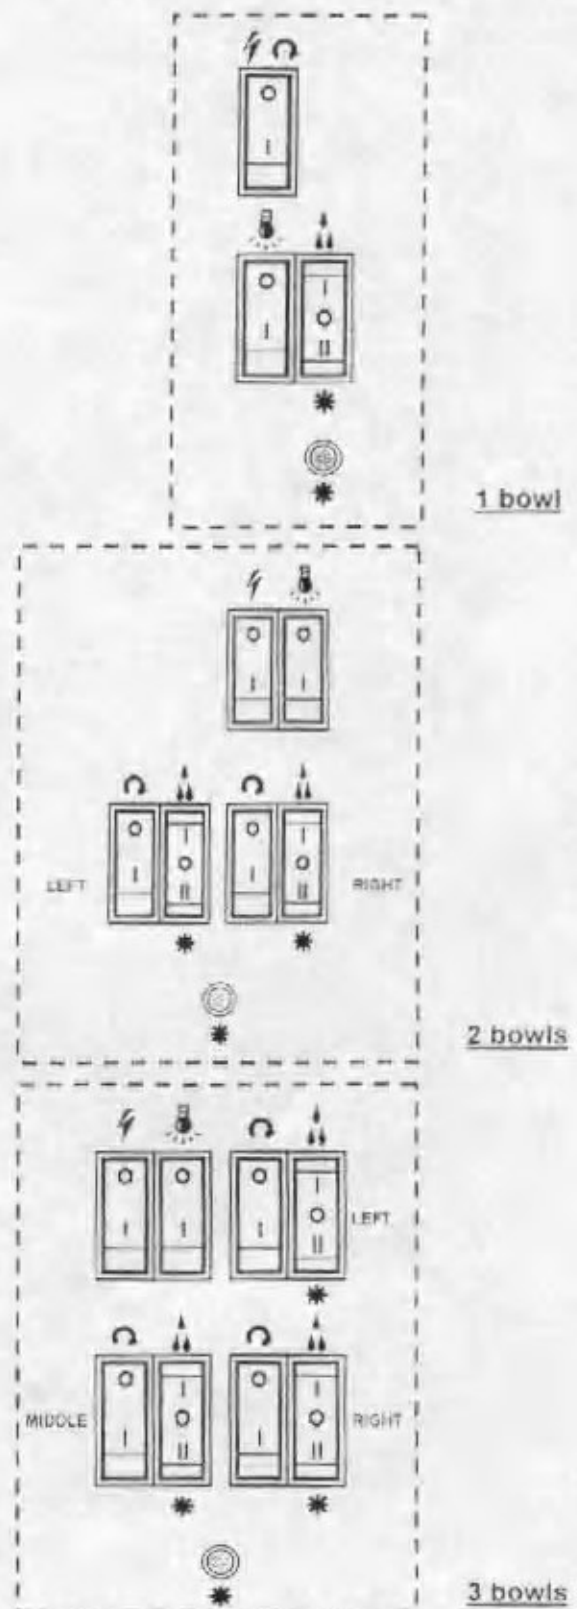

Figure 12
4. To operate, press main power switch and agitator switch to ON position (Figure 12). **NOTE:** The agitator switch must be to ON position before setting to liquid or slush mode.